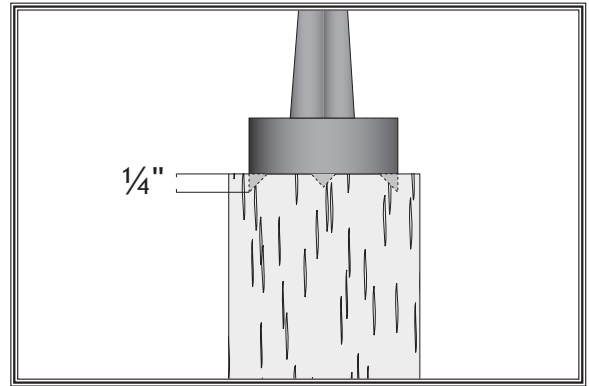

Figure 41. Spur center properly embedded.
6. Drive spur center into end center mark of workpiece with a wood mallet to embed it at least $\frac{1}{4}$ " into workpiece, as shown in **Figure 41**.